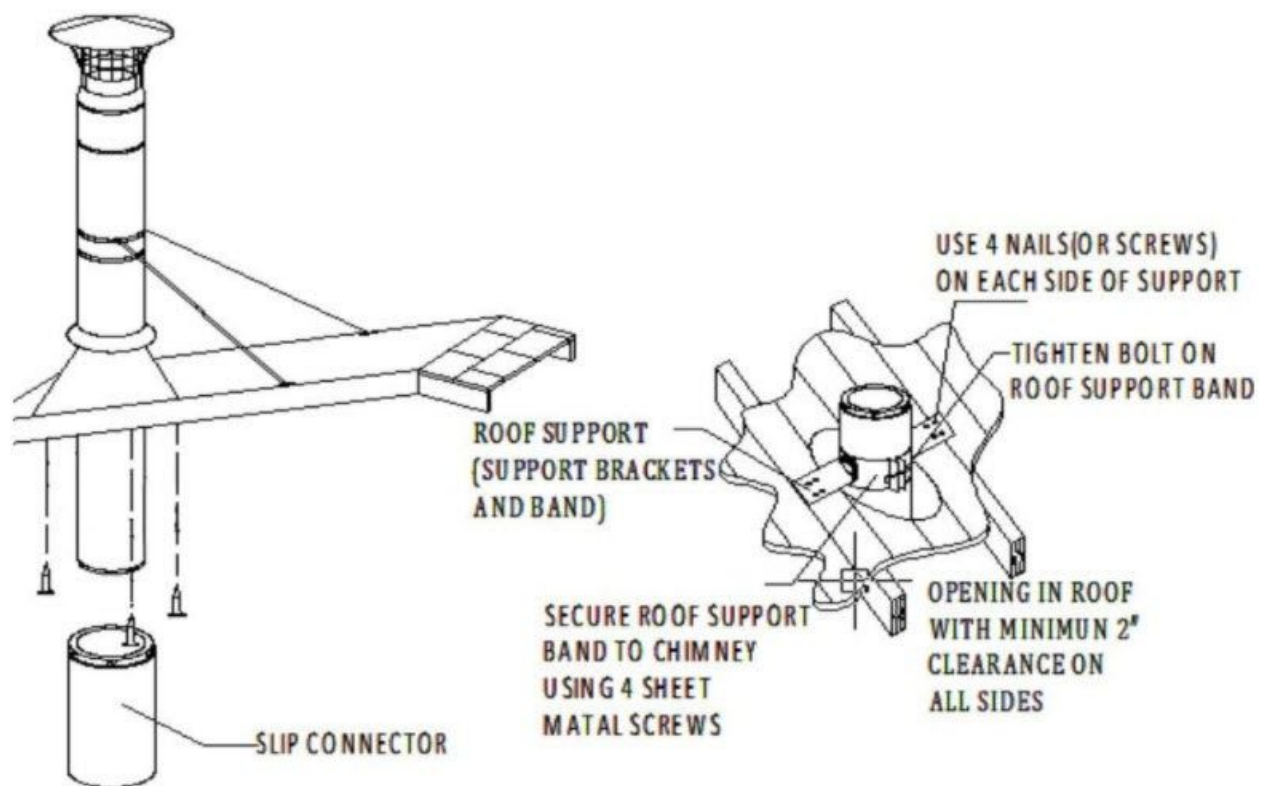

Fig 17
A Roof Support Bracket is used in installations where there is a cathedral ceiling and a Square Ceiling Support is **not** desired (Often used in unfinished buildings, workshops, garages, etc). The Roof Support Bracket allows the AF-HST to come down into the room below the level of the ceiling (Fig 17). The Roof Support Bracket can support a maximum of 45 feet of AF-HST total, and a maximum of 20 feet below the support.
2. Bolt on the Roof Support Brackets to the Roof Support Band using the supplied hardware. Attach the Roof Support Brackets to the roof using (4) 8-penny nails or (4) #8, 1-½" screws per side (Fig 17).
4. Attach desired length of Chimney Sections above and below the roof level (max. Of 45' total, 20' max below the support) (Fig 17).